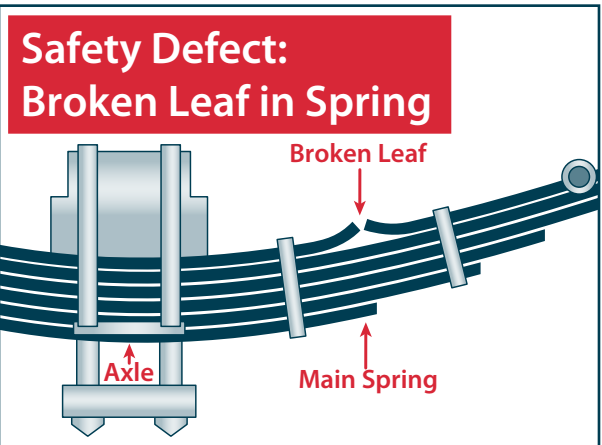

Figure 2.3
- Missing or broken leaves in any leaf spring. If one-fourth or more are missing, it will put the vehicle “out of service,” but any defect could be dangerous (See Figure 2.3.);